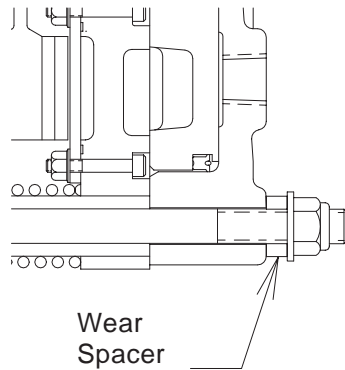

Figure 9
- 4.1.3.11 The wear spacers are “stored” under the locknuts and washers for use after replacing the friction discs. See Figure 9.